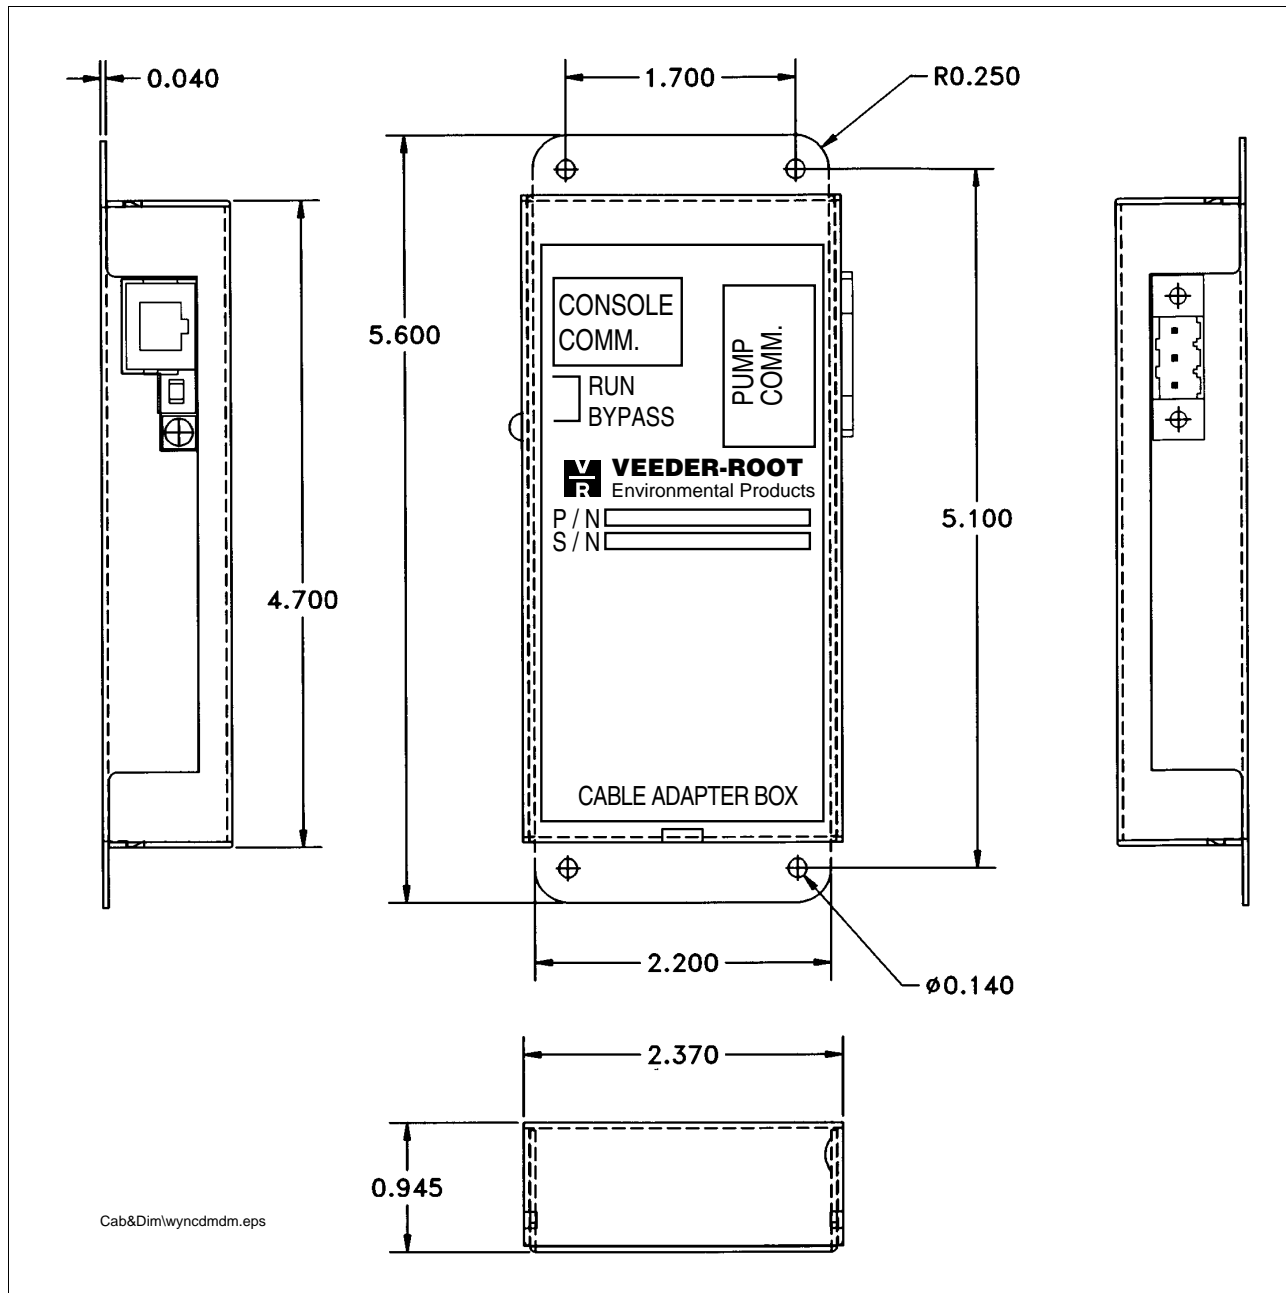

Figure 3. Cable Adapter Box Dimensions
The CAB's cable connections and physical dimensions are shown in Figure 3. .
- a. Attach the 3-conductor plug end of the cable to the PUMP COMM connector (on right side) of the CAB (ref. Figure 3 on page 7).
- c. Check that the CAB's RUN/BYPASS switch is in the RUN position (ref. Figure 3 on page 7). If necessary set switch to RUN. (Note: when switch is in "BYPASS" the status LED will be ON, when switch is in "RUN" the LED will flash when pump communications are present).